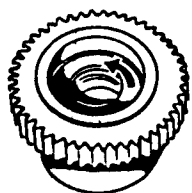

FIGURE 6
A. REMOVE SPUR GEAR & SLEEVE (23), CLUTCH (22), BEARING (21) AND SPACER (20) FROM SHAFT AS AN ASSEMBLY.
B. IN AN ARBOR PRESS, PRESS CLUTCH (22) AND BEARING (21) FROM GEAR (23). PRESS BEVEL GEAR (25) OFF SHAFT. ITEMS 26, 27, 28 & 29 WILL SLIDE OFF SHAFT.
NOTE: WHEN REASSEMBLING NEW CLUTCH (22) INTO GEAR (23) ARROW MARKED ON CLUTCH MUST BE VISIBLE AS SHOWN IN FIGURE 6.
C. PRESS BEARING (53) OFF SHAFT. REMOVE SNAP RING (52). ITEMS 47 THRU 51 WILL SLIDE OFF SHAFT.